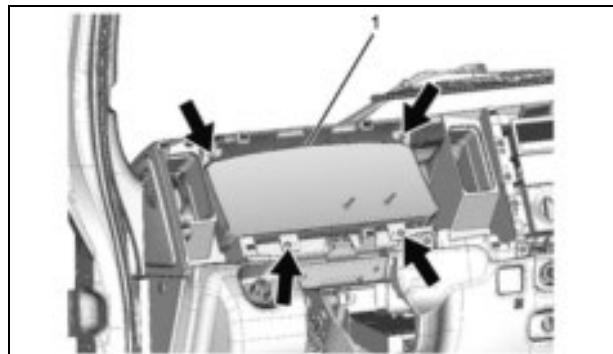

Figure 34
33. Reconnect the instrument panel cluster connector, then install the cluster in the IP and install the four (4) T25 screws removed in Step 16. (See Figure 34.)